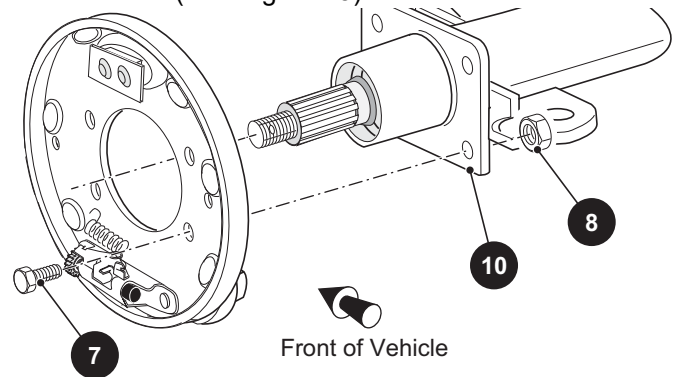

Figure 15 Backing Plate Removal and Installation
4. Remove the bolts (7) and lock nuts (8) securing the wheel brake backing plate to the flange (10) on the axle tube (Ref. Figure 15).